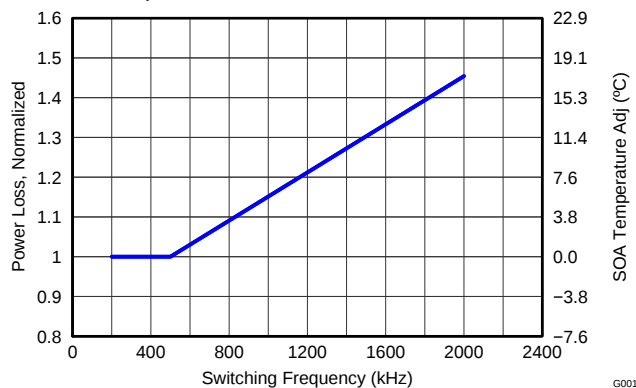

Figure 12. Normalized Power Loss vs Frequency
- Normalized Power Loss for switching frequency  $\approx 1.09$  (Figure 12)
- SOA adjustment for switching frequency  $\approx 3.4^{\circ}C$  (Figure 12)